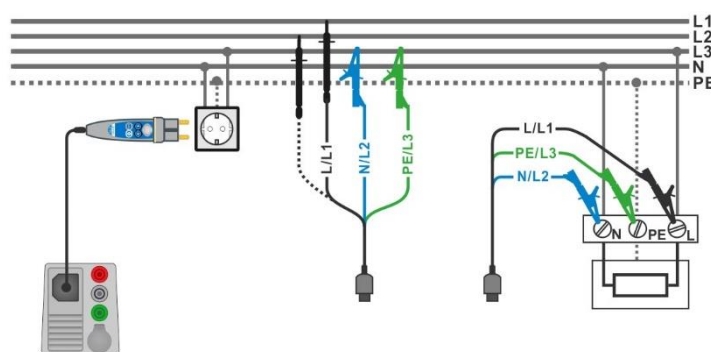

Figure 7.56: Phase-neutral or phase-phase line impedance measurement – connection of Plug commander and 3-wire test lead
- › Connect 3-wire test lead or Plug commander to the object under test, see **Figure 7.56**.